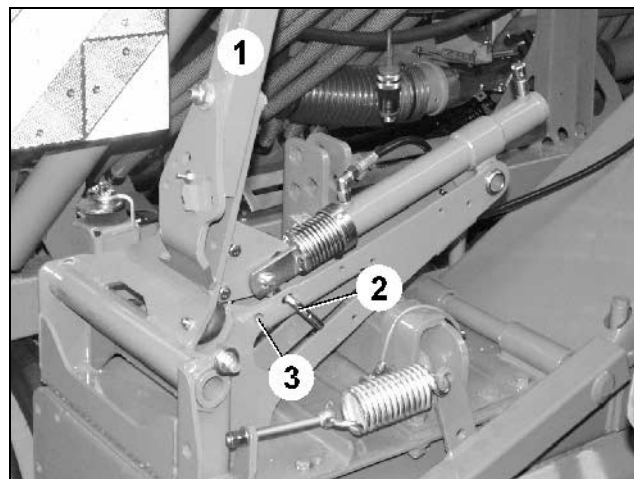

Fig. 28
Before travelling on non public or public roads and ways secure both marker arms (Fig. 28/1) with clip pins (Fig. 28/2) against unintended lowering.
- hold track marker arm (Fig. 28/1) and remove pin and the clip pin (Fig. 28/2)
- when not needed, insert the pin with clip pin into the hole (Fig. 28/3)
After removal of the clip pin (Fig. 28/2) the marker arm is tilting slightly to the side.